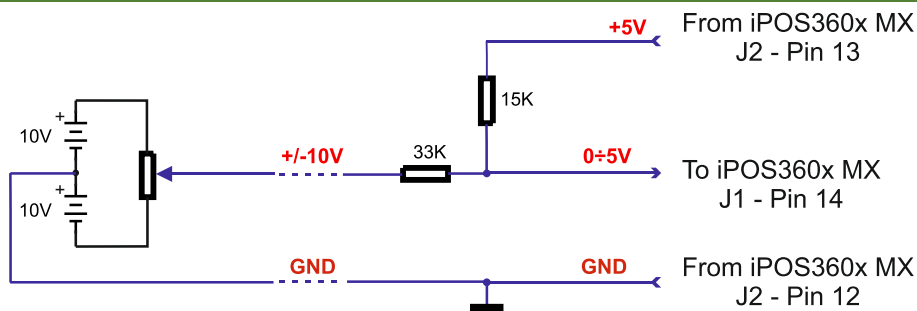

Figure 3.8. +/-10V to 0-5V adapter
2. Default input range for analog inputs is 0÷5 V for REF and FBDK. For a +/-10 V range, see Figure 3.8.